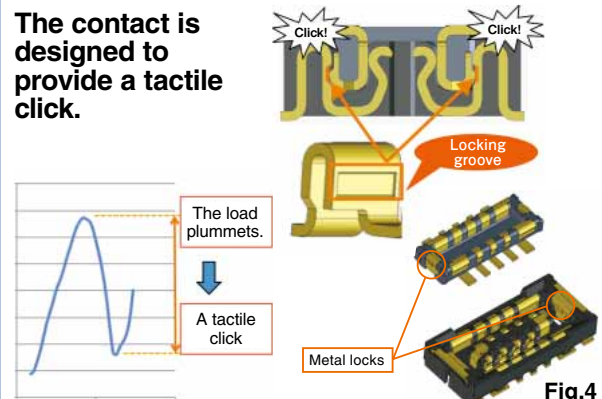

Fig.4
4. **A tactile click ensures secure mating.** (Fig.4)